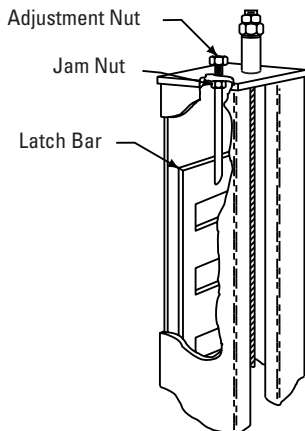

Fig. 5a
- Thread the jam nut down the threaded stud as far as possible. Stick rubber bumper to bottom of latch bar, see Fig. 7. Place the latch bar in the back of the column, Fig. 5a. The latch bar is offset from the center line of the threaded stud (inset Fig. 6). The latch bar should be oriented toward the back of the column from center line of the threaded stud.